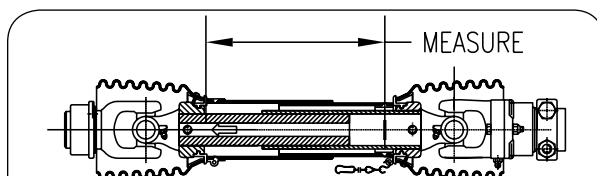

FIG. 4-71
7. Measure the length "L" from the same points as used in step 1. **This distance must be at least 1.5 inches greater than the distance measured in step 1.** If necessary, adjust the length of the PTO shaft by cutting the inner and outer plastic guard tubes and inner and outer sliding profiles by the same length. Round off all sharp edges and remove burrs before greasing and reassembling shaft halves. (FIG. 4-71)